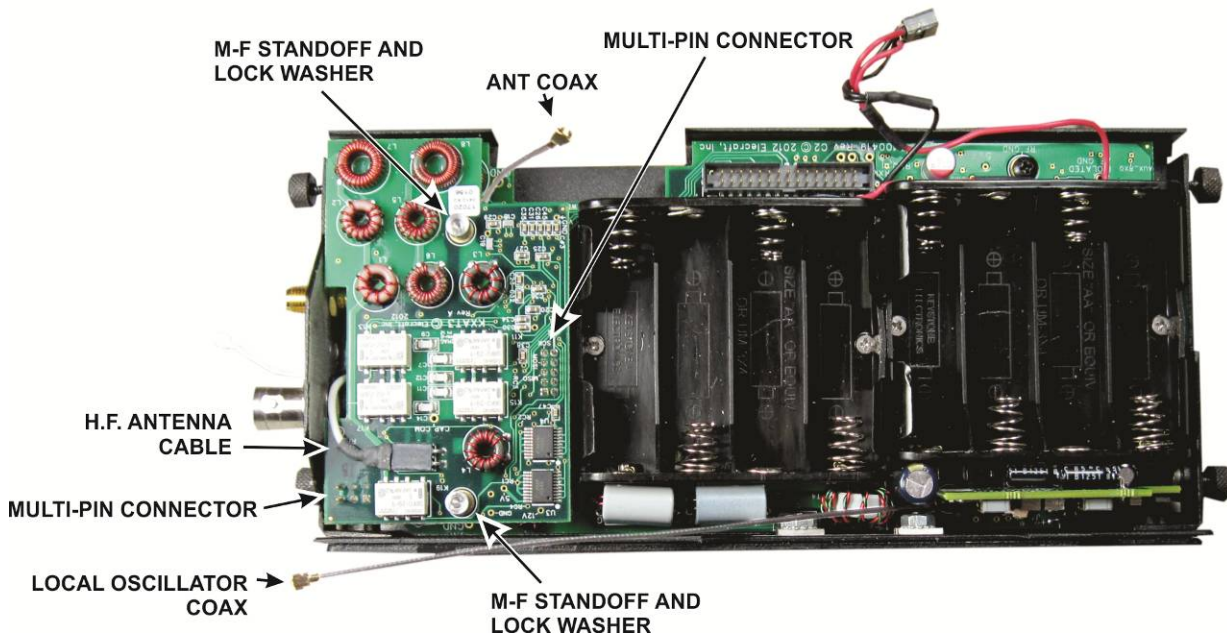

Figure 17. Replacing the KXAT3 ATU.
□ Replace the KXAT3 board as shown in Figure 17 or, if your KX3 is not equipped with the KXAT3 Antenna Tuner option, install the adapter board furnished in its place. Do not disturb the location of the antenna coax you just positioned.